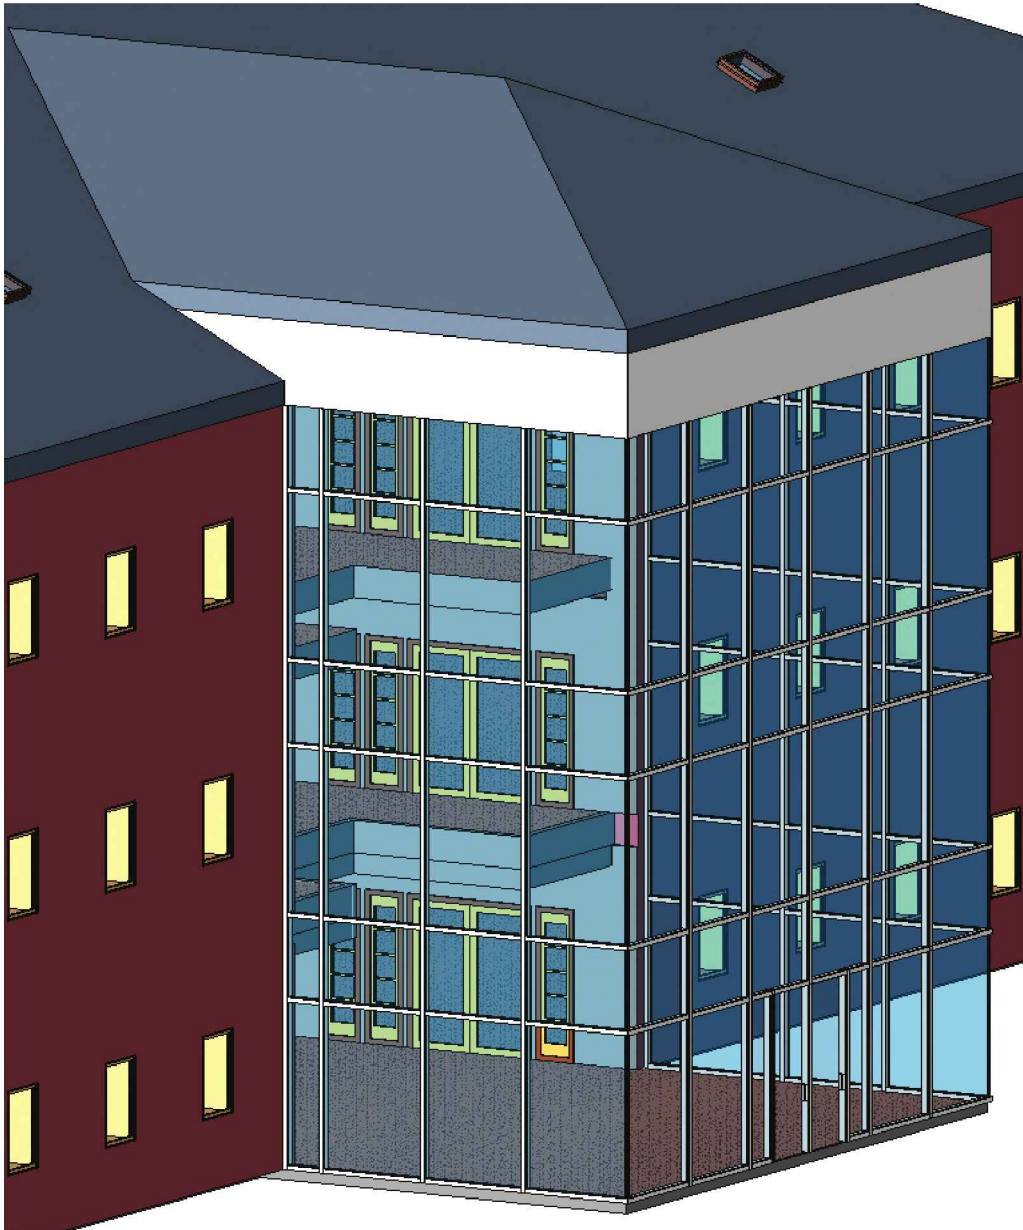

FIGURE 8-5.8 3D view with mullions added
17. Click on the bottom edge of the six cells (skipping the two door openings), to place the horizontal mullion (Figure 8-5.8).
18. Click on the two verticals next to each door to place a mullion (Figure 8-5.8).